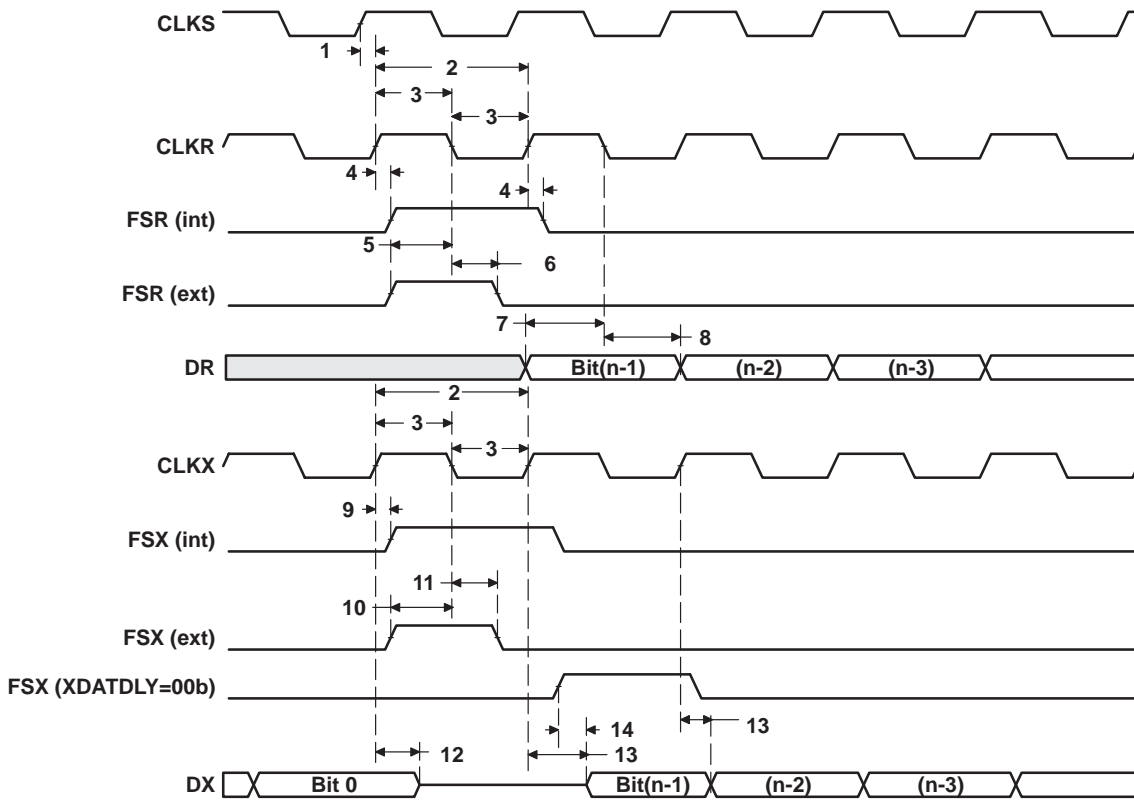

Figure 33. McBSP Timings
### timing requirements for McBSP†‡ (see Figure 33)
**switching characteristics for McBSP†‡ (see Figure 33)**